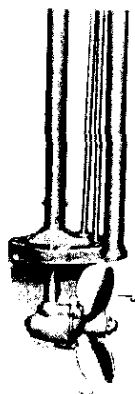

Fig. 2
**GEARS AND PROPELLER SHAFT** — Remove Plug (J) Fig. 2 and force a good non-channeling, water proof grease into housing. Check supply of grease in housing every 20 hours of operation.